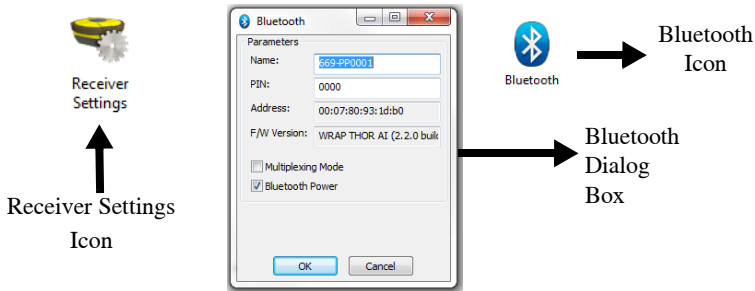

Figure 2-5. Bluetooth Receiver Settings
- Click on the **Receiver Settings** icon in the main window, then click on the **Bluetooth** icon. The **Bluetooth** dialog box displays (Figure 2-5 on page 2-6):